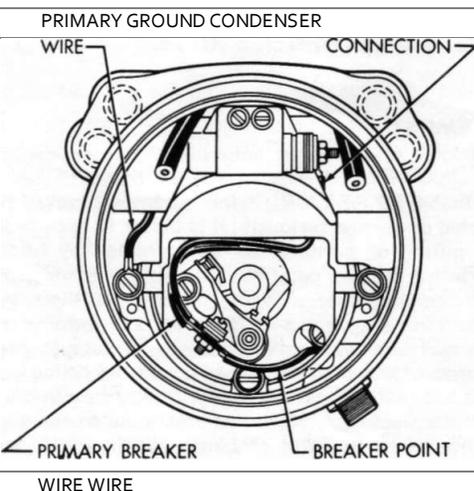

Figure 8-1. Magneto Wiring
- a. Install coil and lamination assembly (57) in body (50) loosely with screws (58) and washers (59). Temporarily insert rotor (52) and, using wooden wedges, pry laminations outward and install roll pins (56). Tighten screws.
- b. Press bearings (54 and 55) to shoulders on shaft (52) and press the assembly into retainer (48).
- c. Attach bearing retainer (48) to magneto body (50) with screws (45) and washers (46).
- d. Install oil seal (53). Secure impulse coupling (36) on rotor shaft (52) with key (51), washer (35) and nut (34).
- e. Slip breaker (33) over pivot pin (47) and secure with screw (30) and washers (31 and 32).
- f. Turn rotor shaft (52) until the breaker point follower block rests on the highest part of one of the cams.
- g. Loosen screw (30) until breaker (33) moves freely.
- h. Place an 0.022 feeler gage between the breaker points and move breaker up or down until a slight drag is felt on the gage when sliding it between the points. Tighten screw (30) and recheck points for 0.022 gap.
- i. Connect wiring as shown in figure 8-1.
- j. Turn rotor shaft (52) several times to make certain it does not bind at any point. Binding is usually due to uneven tightening of bearing retainer (48) to magneto body (50).
- k. Install the distributor rotor (17) by aligning the rotor bore with the keyway on rotor shaft (52). Gently press rotor on shaft, or tap lightly into place with a soft mallet.
- l. Clamp the entire assembly in a vise by one of the mounting lugs. Turn the impulse coupling (36) in its normal direction of rotation to determine that it snaps freely